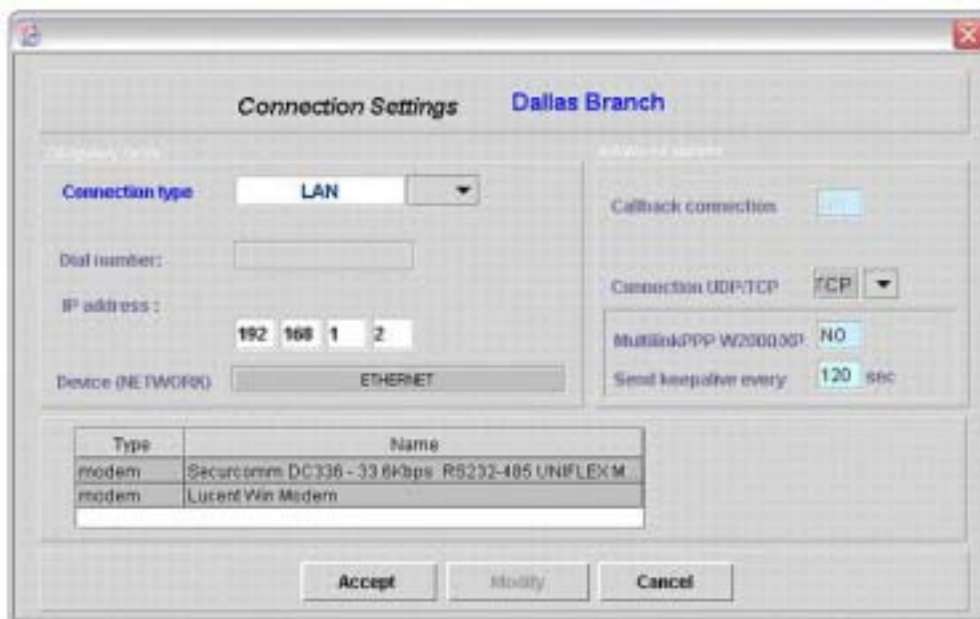

FIGURE 20. CONFIGURING THE NEW CONNECTION
5. Click **Add** to create the new account. The application adds the new site and automatically opens the connection window to define a communication setting(s) to the new site, as shown in Figure 20.
The main menu now has a new entry with a site named **Dallas Branch** as shown in Figure 20.